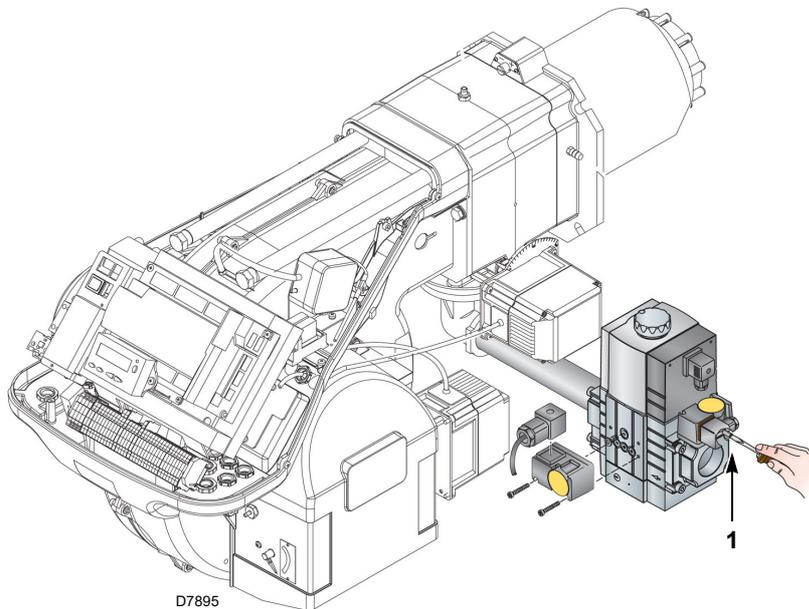

Fig. 30
- Check the gas supply pressure by connecting a pressure gauge to the pressure test point 1)(Fig. 30) of the minimum gas pressure switch: it must be lower than the maximum allowed pressure of the gas train, as shown on the characteristics label.
- Bleed the air from the piping of the gas train, connecting a plastic tube to the pressure test point 1)(Fig. 30) of the minimum gas pressure switch. Take the vent tube outside the building so you can notice the smell of gas.